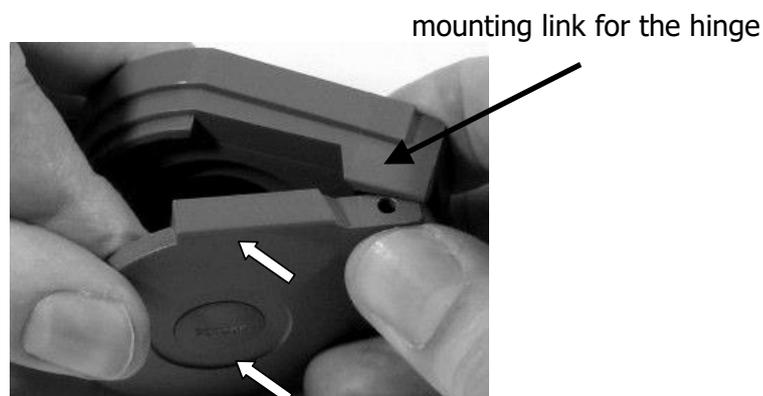

Figure 15 Docking Station Door insertion
2. Open the Docking Station Door (to an angle of approximately 120° (*see Figure 15 Docking Station Door insertion*)).